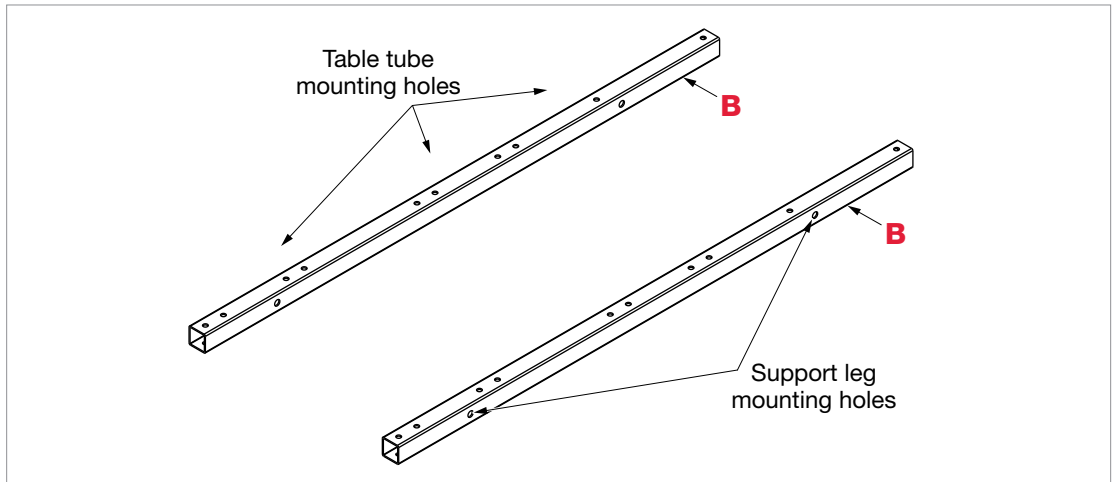

Fig. 43
- 12** Place two table support tubes (**B**) (see inventory in **Fig. 2 on page 3**) on the floor behind your table saw and align them as shown in **Fig. 43**. The four sets of paired together holes should be on the left (from the user perspective), and the two solitary holes should be on the right.